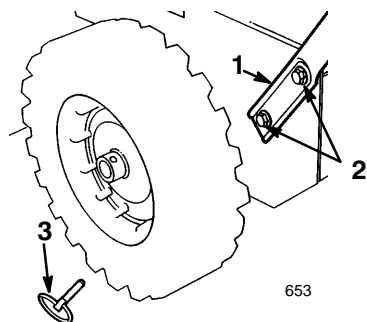

Figure 2
2. Remove the axle pins from both wheels (Fig. 2) and slide the wheels outward on the axle approximately one inch (2.5 cm).
4. Position the left handle against the left side of the snowthrower, align the handle mount holes with the holes in the side plate, and secure the handle with two capscrews and curved washers until finger tight (Fig. 2).